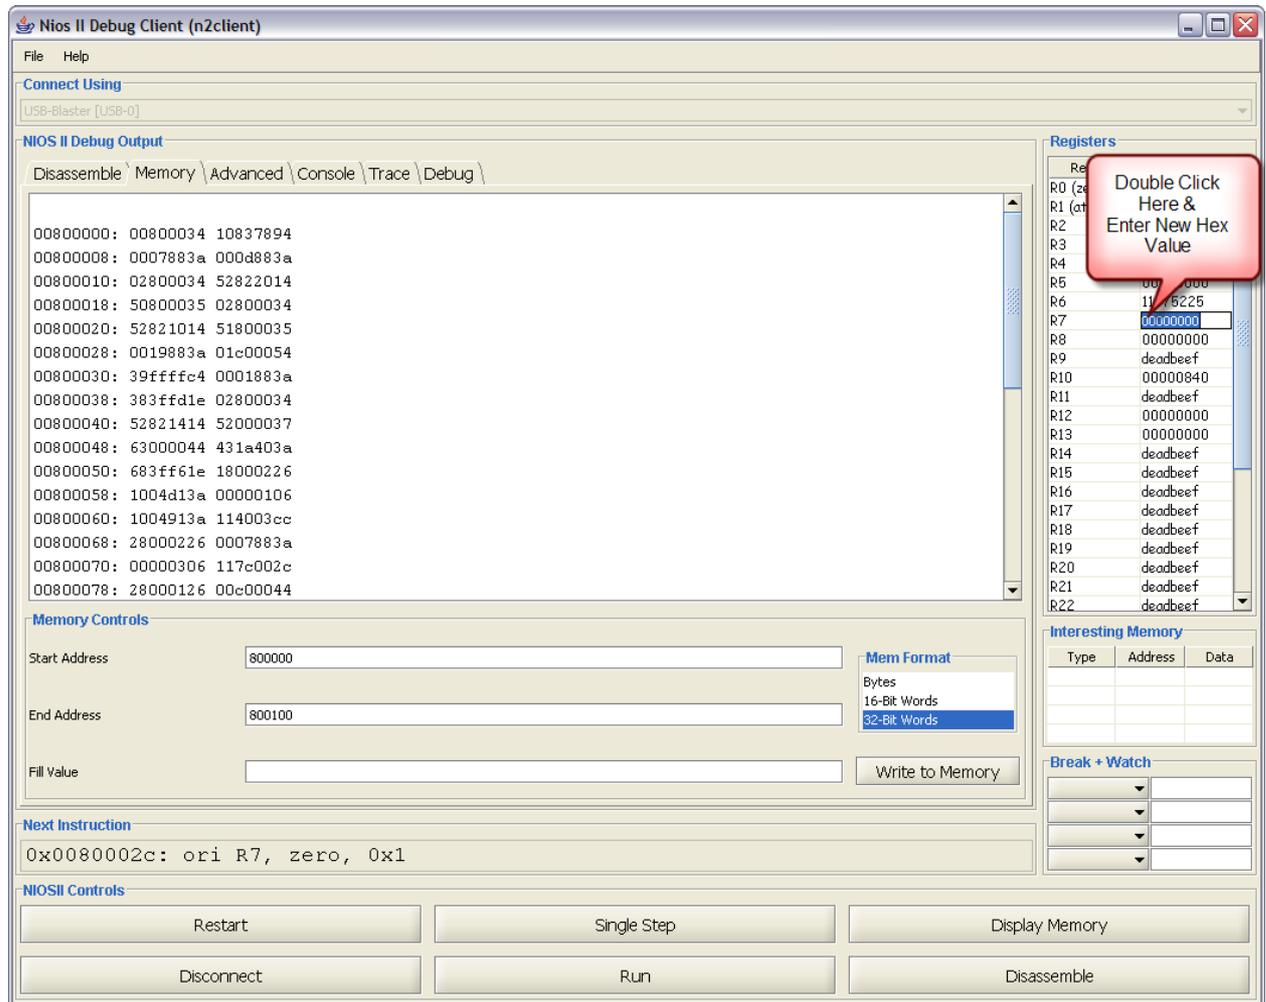

Figure 17: Changing a Register Value.
1. Changing the value in register **R7** is illustrated in Figure 17. Double click on the text field associated with **R7** and enter a new HEX value. Press the **Enter** key to complete the change.